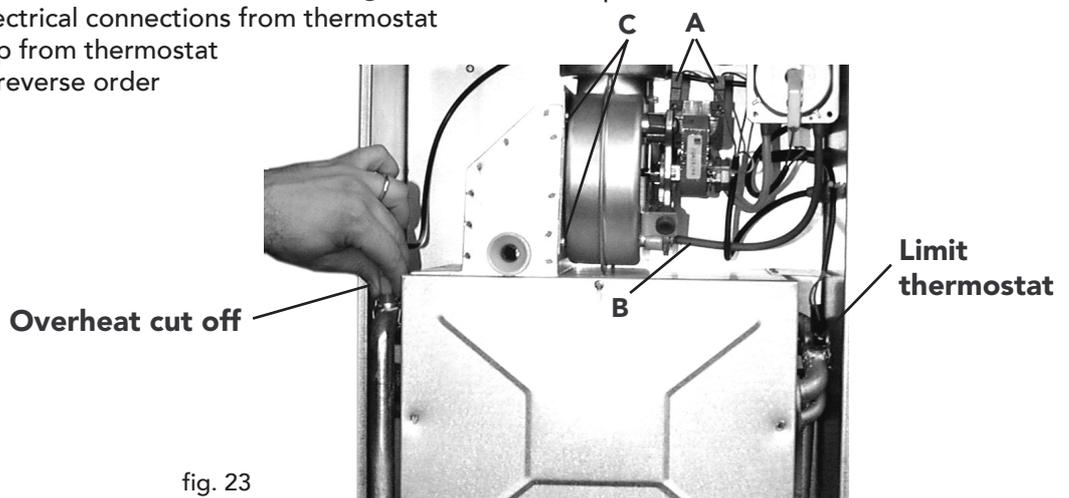

fig. 23
**Removal of fan (fig. 23)**
**Limit thermostat, or overheat cut off thermostat (fig. 23)**
- Identify the location of the faulty thermostat from fig 23